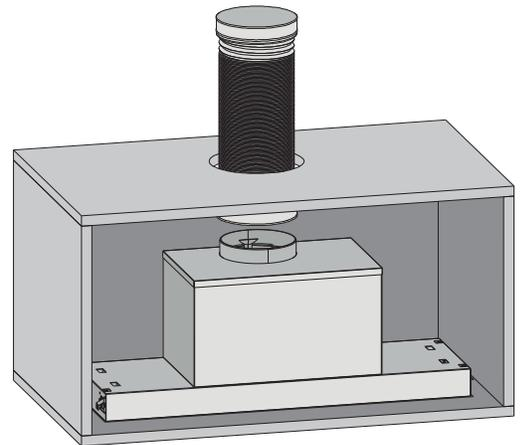

Figure 6
- Install the expansion pipe and fix it with cable tie (see Figure 6). Please note the expansion pipe and cable tie are not included in the product.